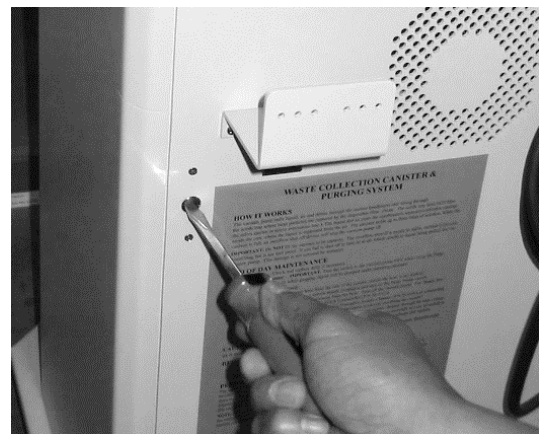

Fig. 1
- 2 Open back panel of unit using a flat head screwdriver. There are two quick-turn screws on the back of unit. Move suction tube and electrical cord out of the way of back door. (Fig. 1)